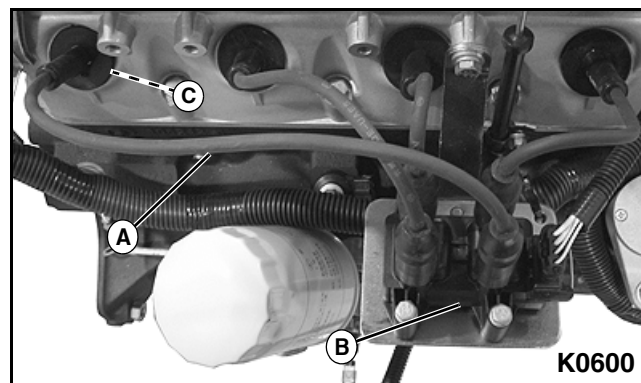

Figure 3-15
1. Connect ignition wire (A) to ignition coil (B) and spark plug (C) by firmly pressing ignition wire onto terminals. **See Figure 3-15.**